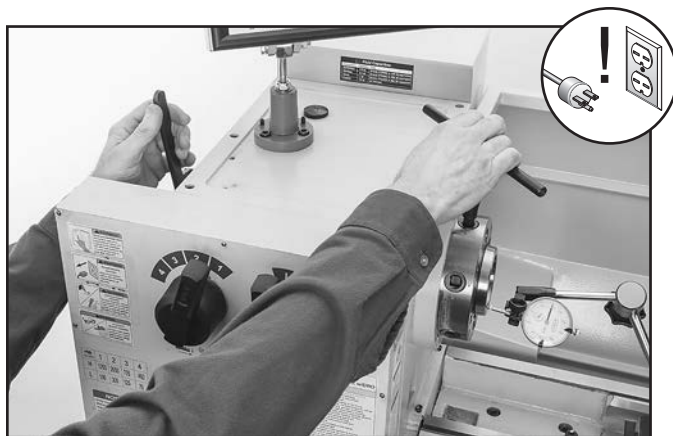

Figure 140. Adjusting spindle bearings.
10. Insert chuck key into a cam socket to prevent spindle from turning, then tighten inner spanner nut until dial indicator needle just stops moving (see **Figure 140**).